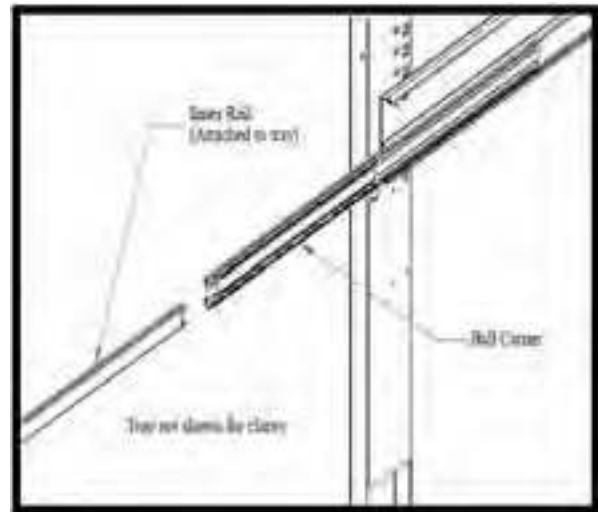

Figure 5.1 Bottle Tray Rails
2. Move the ball carriers out to the ends of the slide rails (Refer to **Figure 5.1** below) and hold in position.